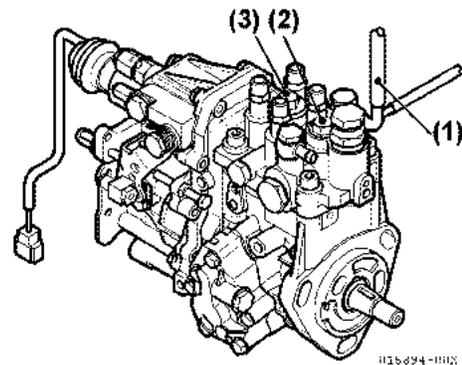

Figure 6-55
- Clamp shut the fuel injection pump fuel return hose (**Figure 6-55, (1)**). **NOTICE: Clean the top of the fuel injection pump to prevent any contamination when the fuel injection pump plunger plug is removed.**
- Remove the forward fuel injection pump plunger plug (**Figure 6-55, (2)**) on the top of the fuel injection pump. **NOTICE: Do not release the distributor plug (**Figure 6-55, (3)**). Fuel injection order may change from the proper order.**